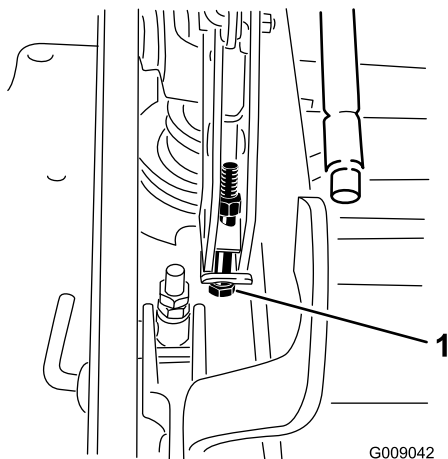

**Figure 88**
12. To adjust the single point system, loosen the two bolts at the bottom of the height of cut plate. Refer to Figure 88.
- Tighten the two bolts at the bottom of the height of cut plate (Figure 88). Torque to 27-33 ft-lb (37-45 N-m).